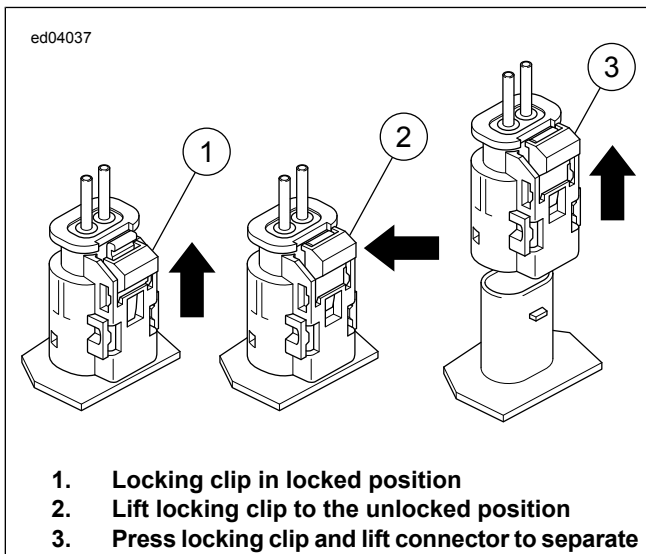

Figure B-23. Separating Connector
1. See Figure B-23. Lift the locking clip up in the unlocked position.